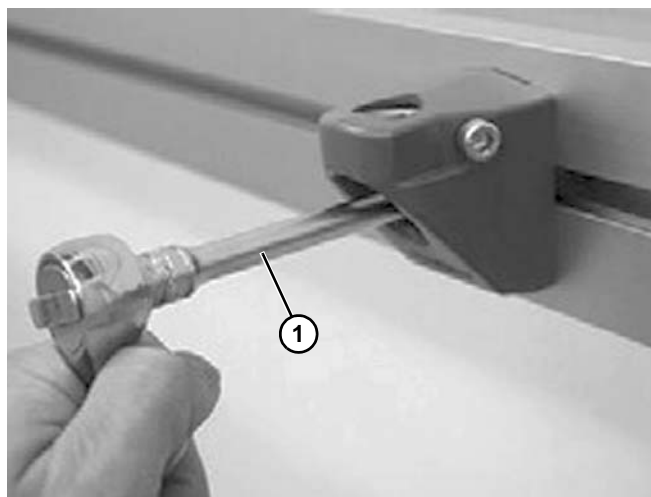

Figure 78
2. Attach the bracket onto conveyor beam and tighten with a socket wrench (**Figure 78, item 1**).